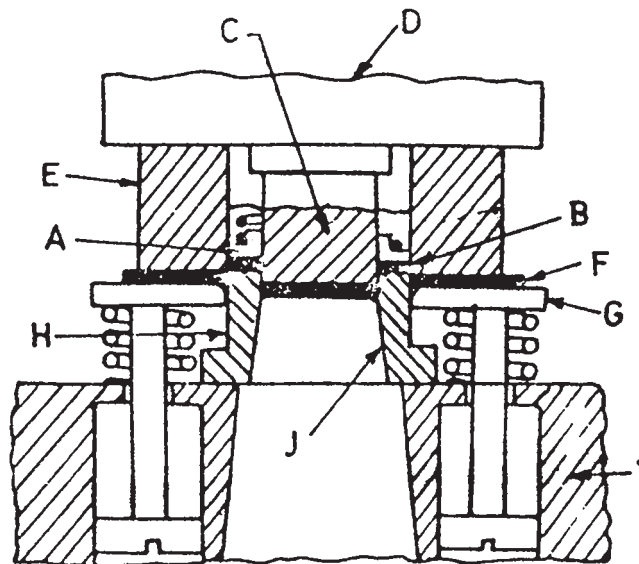

Fig. No. 1
- b) Figure No. 1 shows one of the die assembly. Observe it carefully and answer the following: